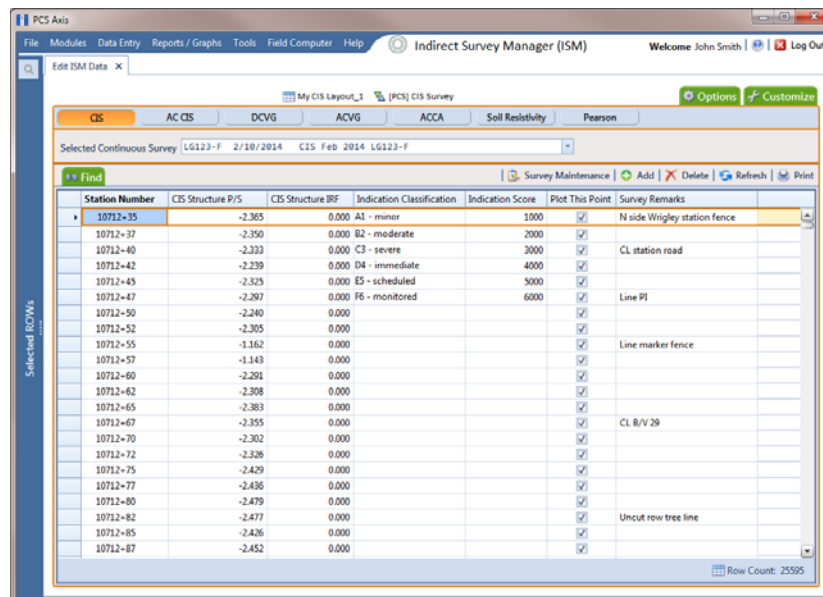

Figure 7-70. Edit ISM Data
- 3 Click **Data Entry > Edit ISM Data** to open the ISM data entry grid. Then click a button labeled with the type of continuous survey data you want to work with, such as the **CIS** button  (Figure 7-70).